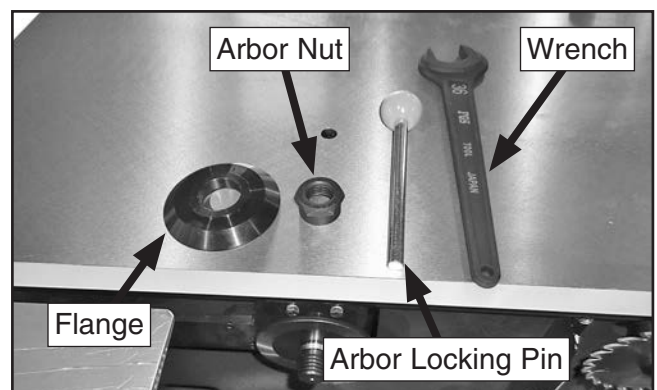

Figure 90. Main saw blade and arbor parts.
8. Continue unthreading arbor nut clockwise (left-hand threads) until you can remove the nut, flange, and blade (see **Figure 90**).